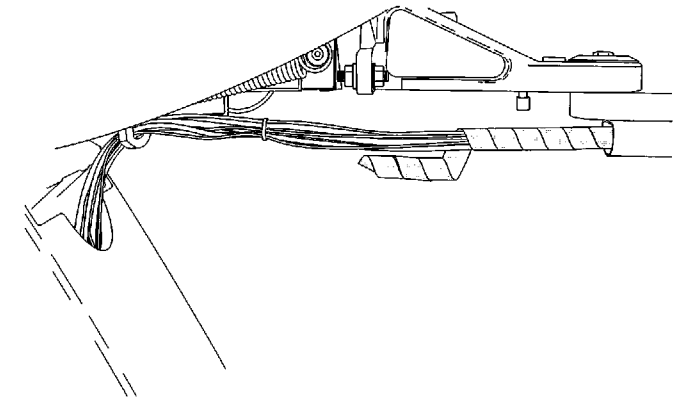

Figure 35. Wrapping the spiral sheath around the tubing and cables.
5. Wrap the spiral tubing sheath around the tubing and cables exiting from the front-mount arm (see Figure 35).